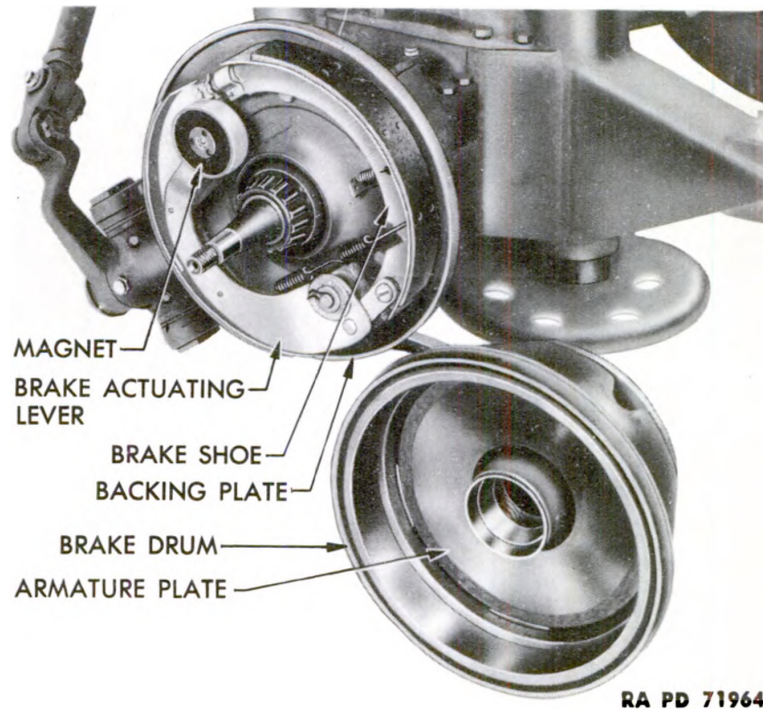

Figure 68 – Electric Brake Mechanism and Brake Drum
(1) Each electric brake wheel unit (fig. 68) consists principally of
(2) The magnet is supported on the end of the brake actuating lever and is always in light contact with the armature plate. The lever is pivoted between the ends of the brake shoes and is capable of being moved backward or forward. It is returned to its normal position after it has been moved in either direction by the springs which retract the brake shoes from the drums.
(3) There is a stud on the under side of the lever at its pivoted end. This stud bears against either of two links attached to the brake shoes and presses the shoe attached to that link outwardly when the lever is moved, applying the shoe to the drum. Retracting springs withdraw the shoes from the drum when pressure upon their ends is released by the lever.
c. Electric Brake Functioning. When the brakes are applied, current is released which energizes the magnet (fig. 68). The magnet clings to and tends to revolve with the armature plate, causing the lever to move. The stud on the pivoted brake actuating lever presses one of the links attached to the end of a brake shoe, expanding the shoe against the brake drum and applying braking effort. The more current released, the tighter the magnet will cling to the armature plate and the harder the shoe is pressed against the drum. Application of the brakes during forward movement activates one brake shoe initially; the other brake shoe is activated initially during backward movement.